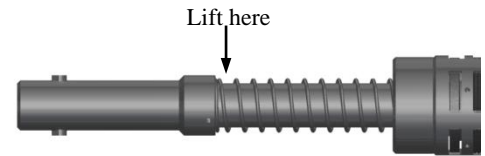

Fig. 2
**CAUTION4:** Lift the AS Retrieval Bridge Plug by placing the sling or chain just below the pulling head. **DO NOT** lift the bridge plug by the upper slip body assembly (Fig. 2).